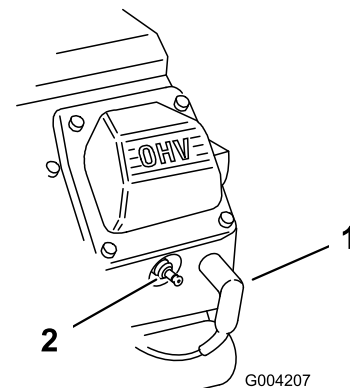

Figure 36
3. Pull the wires off of the spark plugs (Figure 36).
3. Push the wires onto the spark plugs (Figure 36).